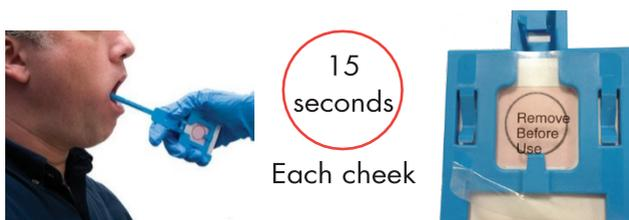

Figure 2. Sample uptake using the EasiCollect device.
4. Hold the EasiCollect as shown (Figure 2).
6. Carefully remove the plastic protective film from the FTA Card holder (Figure 2) to expose the FTA Card.